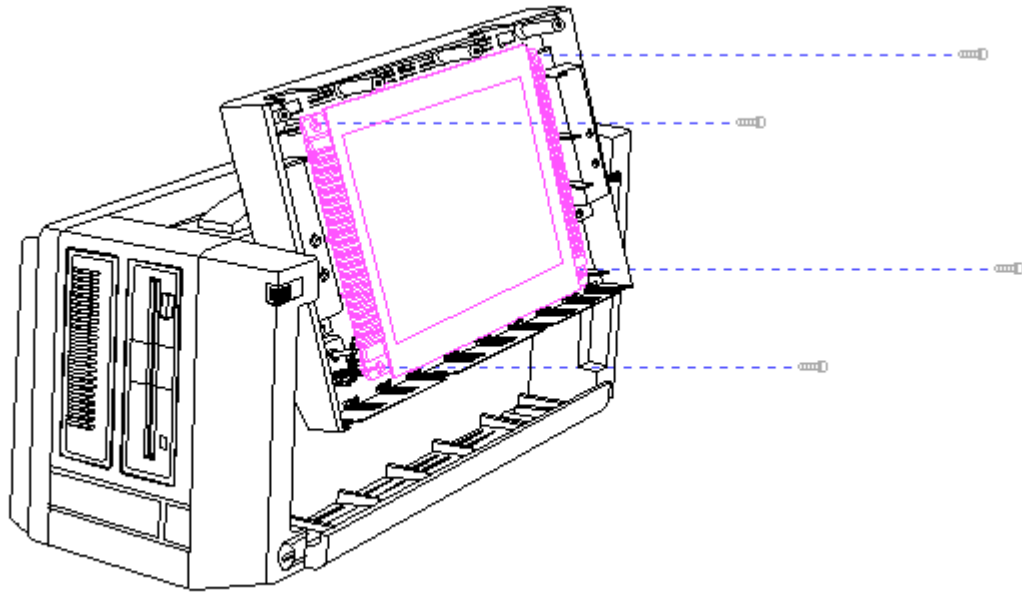

Figure 8-74. Removing the Screws
7. Remove the four screws and washers that secure the plasma display to the display enclosure (Figure 8-74).